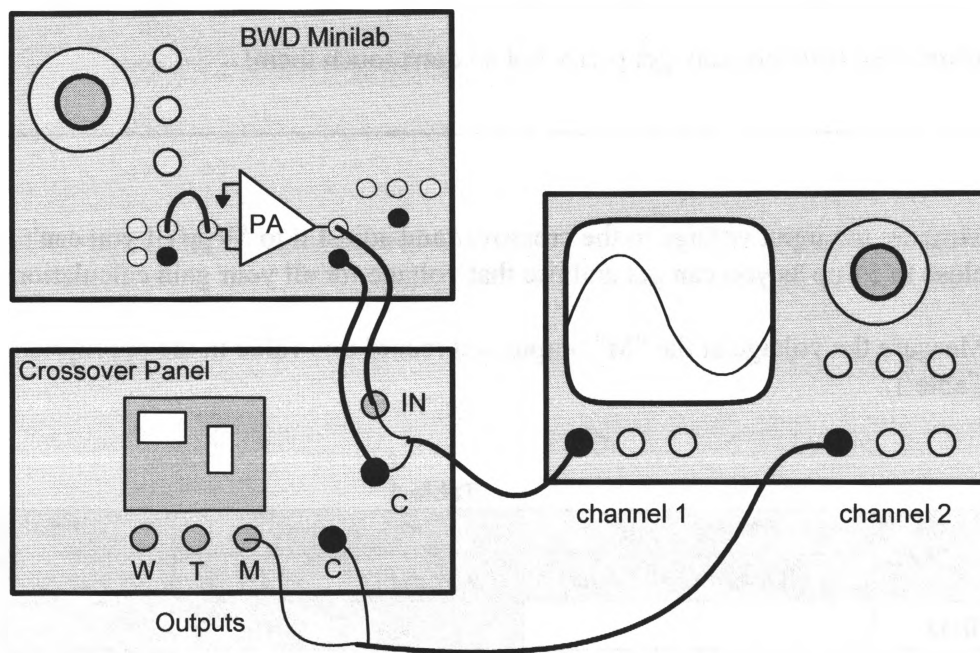

Figure 1
4. Turn the Minilab off and connect the circuit of Figure 1.